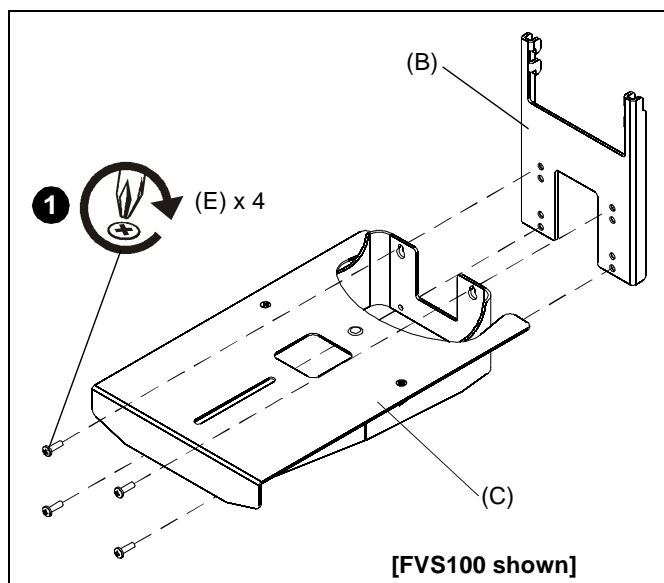

Figure 1
1. Attach lower shelf (C or D) to hanger bracket (B) using four 10-24 x 5/8" Phillips pan head screws (E). (See Figure 1)